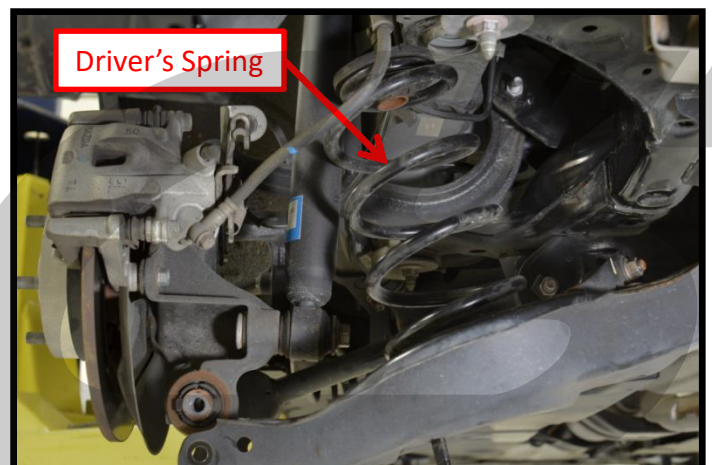

Figure 2e
- g) **Remove the spring** to gain room and slide the swaybar out. **Figure 2e** shows the spring lose it will easily come out. Do not loose the piece on the top of the spring.